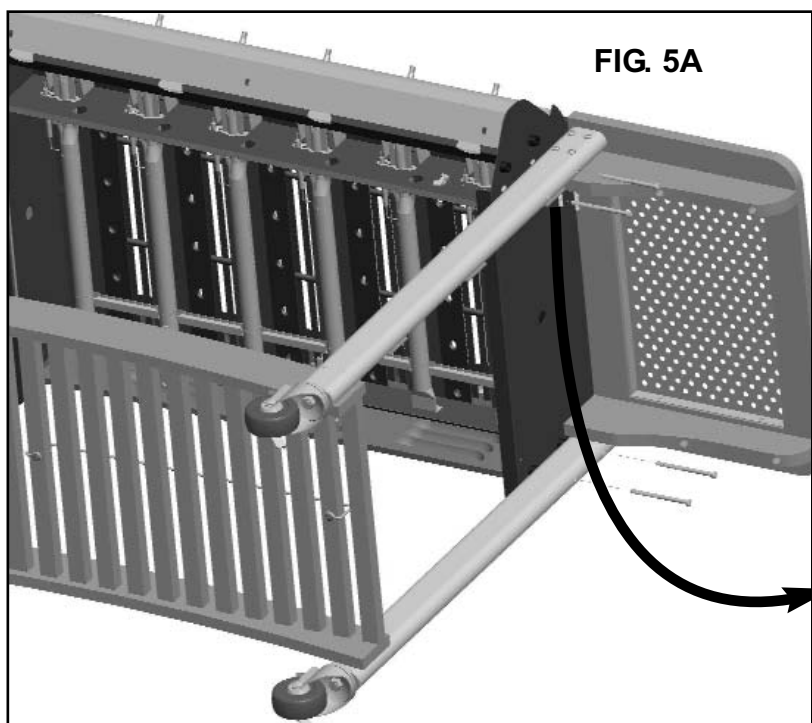

FIG. 5A
- Lay Grill Body on its back with the control panel facing up. Place Cart Assembly Legs around the Grill Body. (FIG. 5A)